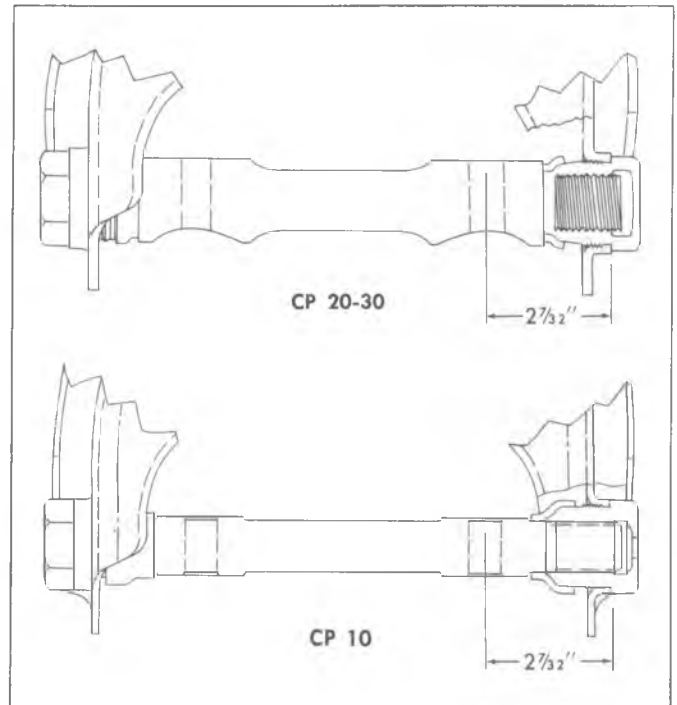

Fig. 17—Positioning Upper Control Arm Shaft
- Start new bushings on shaft and into control arm. Adjust shaft until it is centered in control arm, then turn bushings in and torque to specifications. Figure 17 shows correct final positioning of shaft. Check shaft for free rotation and install grease fittings.
- Torque the shaft end nuts. See fig. 17 for spacing.